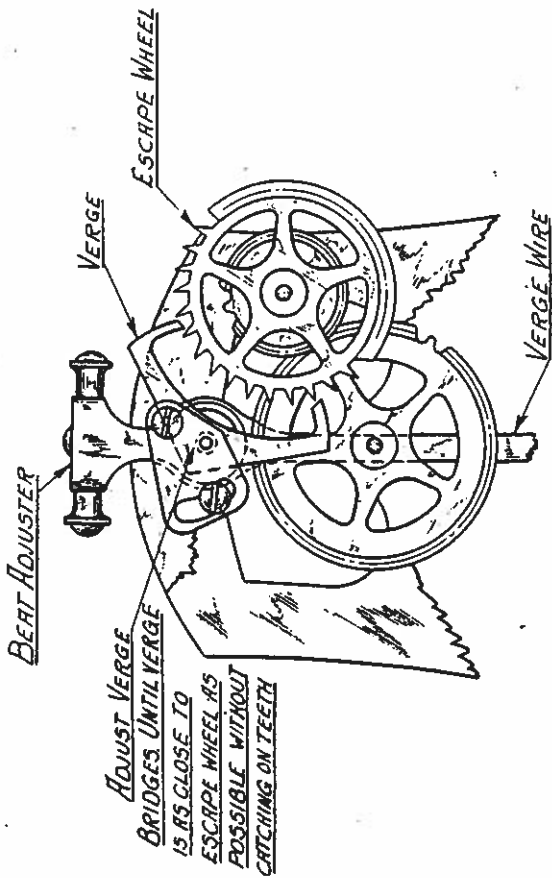

FIG. 4
If the clock does not tick even or if the seconds hand hesitates longer on one second than another, the clock is out of beat. The best method of accurately checking a pendulum clock to see if it is in beat is to watch the movement of the seconds hand when the pendulum is moved slowly by hand. The seconds hand should advance on any second when the pendulum is an equal distance each side of its dead center position. In other words the seconds hand should not be released when the pendulum is one (1) inch one side of its dead center position and one half (1/2) inch on the other side of dead center. If the clock is out of beat, it may be adjusted by turning the small, knurled thumb screws, located on the verge which is above and just in front of the upper end of the pendulum. (See Fig. 4) It is always advisable to check the beat of the clock by moving the pendulum slowly to the right until the escape wheel is released and then release the pendulum to see if its momentum will carry it far enough to the left to allow the escape wheel to be released on the reverse side. Then try moving the pendulum to the left and check alternately until this condition is obtained.
The escapement of the List 11 and 12 Master Clocks has a large 30 tooth ratchet escape wheel and standard 60 beat verge which avoids close adjustments, and permits rugged construction. Fig. 4 shows the construction and principle of operation for this type of escapement.